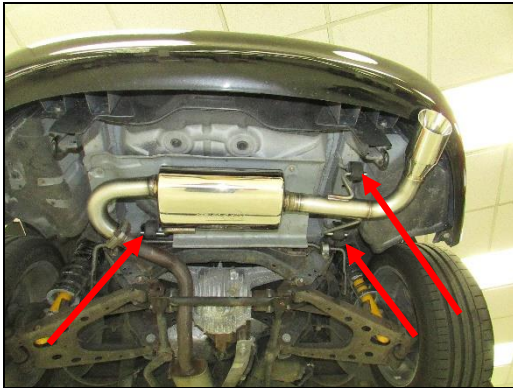

Figure 3
1. Install the Blackheart axle-back exhaust. Slide in (x3) hangers in the OE rubber isolators (**Figure 3**).